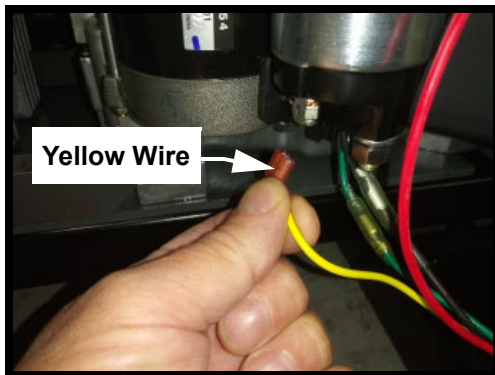

FIGURE 2
6. Locate and disconnect the yellow engine wire harness (i.e. Kawasaki harness) wire from the solenoid. See Figure 2.